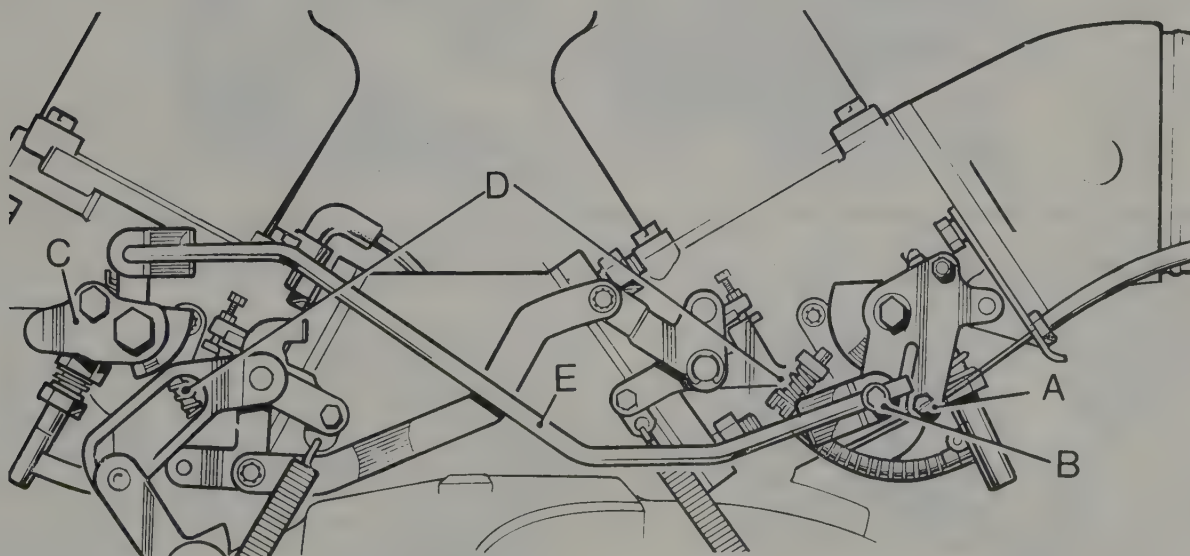

Fig. 3.27. Choke and fast idle adjustment for type HS6 carburettor
- 2 Test the operation of the interconnecting rod (Fig.3.27) that actuates the cam levers, to ensure that the carburettor jets drop to their full extent.